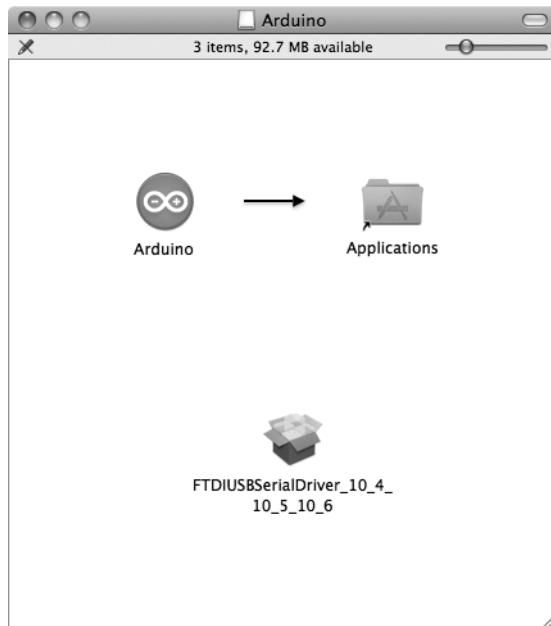

Figure 1-9: Your new Arduino IDE folder
3. Once it's finished downloading, double-click the file to start the installation process. You will then be presented with the window shown in Figure 1-9.
The third file icon shown in Figure 1-9 needs to be installed only if you have an Arduino board older than the current Uno.